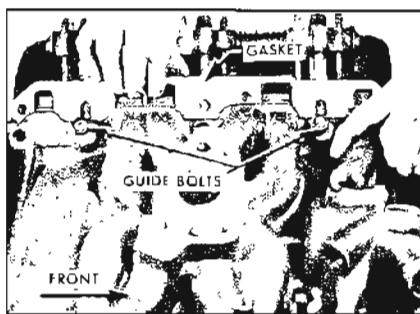

Figure 2-31—Installing V-6 Intake Manifold Gasket
2. Set intake manifold in place carefully and start two guide bolts on each side. See Figure 2-31.
3. Lift the manifold slightly and slip the gaskets into position as shown in Figure 2-31. Take care